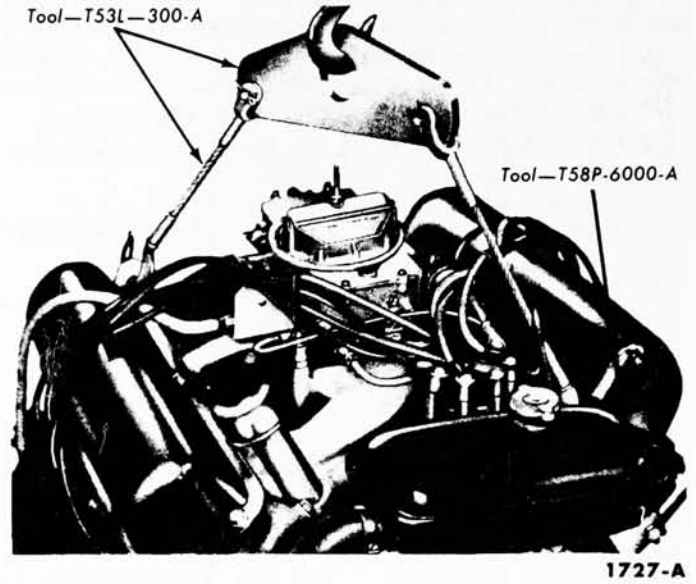

FIG. 15—Engine Lifting Brackets and Sling
5. Lower the car, then support the transmission. Remove the converter or flywheel housing upper retaining bolts. Install the engine left lifting bracket on the front of the left cylinder head where the coil mounts, and install the engine right lifting bracket at the rear of the right cylinder head, then attach the engine lifting sling (Fig. 15). Raise the engine slightly and carefully pull it from the transmission. Lift the engine out of the engine compartment
1. Position the exhaust gas control valve, with a new gasket on each side, on the right exhaust manifold studs. Temporarily tie the valve to the manifold. Place a new gasket over the studs of the left exhaust manifold. Loosen the engine right and left support insulators at the chassis. Attach the engine lifting brackets and sling (Fig. 15), then remove the engine from the work stand.